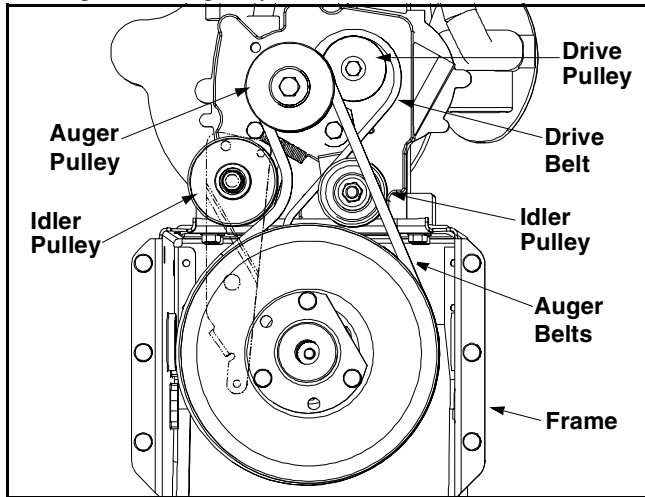

Figure 17
- Roll the front and rear auger belts off the auger drive pulley. See Figure 17.
- Pull the idler pulley up and lift the belt off the wheel drive pulley and friction wheel disc. See Figure 17.